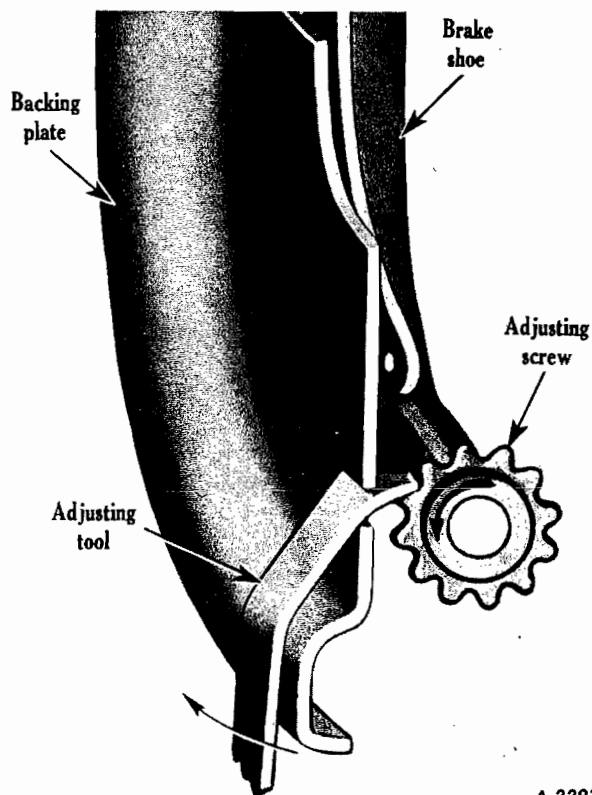

Fig. 5
4. Insert screwdriver or special adjusting tool in slot of backing plate to engage star wheel adjusting screw (Fig. 5).